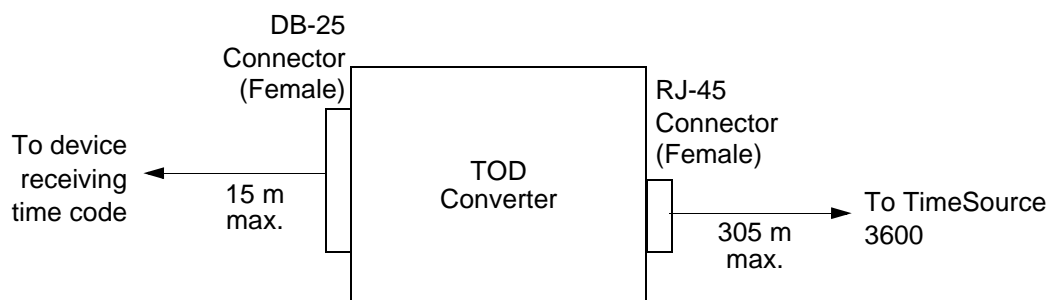

Figure 3-25. RS-422-to-RS-232 TOD Converter Connections
3.	Install a user-supplied Category 5 four-pair RS-422 cable, with RJ-45 connectors on each end, between the TimeSource 3600 Shelf and the converter (see Figure 3-25).
4.	Install a user-supplied RS-232 cable, with DB-25 connectors on each end, between the converter and the device receiving the time code (see Figure 3-25). See Table 3-2 for the DB-25 connector pinouts.